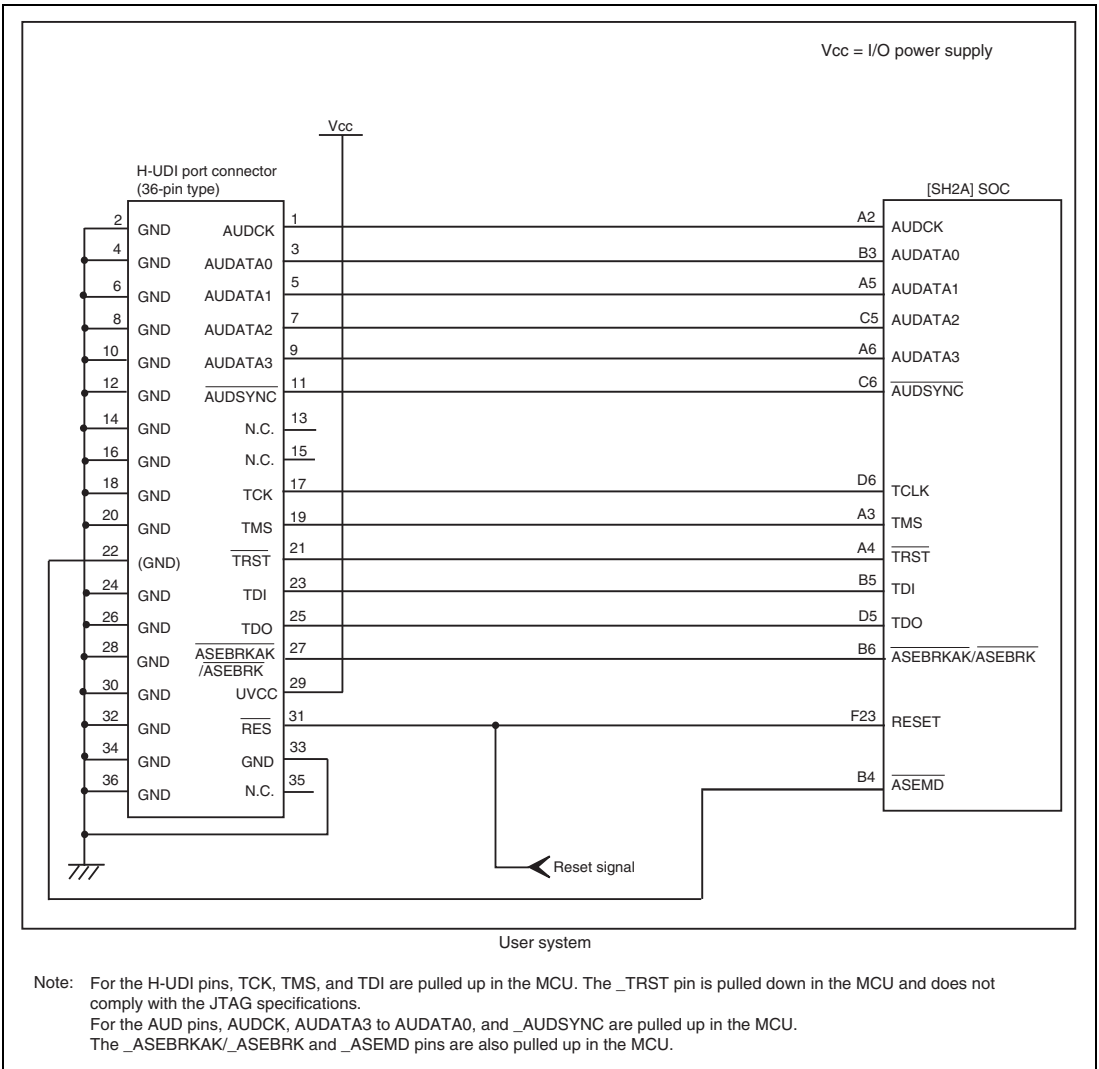

Figure 2.2 Recommended Circuit for Connection between the H-UDI Port Connector and MCU when the Emulator is in Use (36-Pin Type)
Figure 2.2 shows a recommended circuit for connection between the H-UDI and AUD port connectors (36 pins) and the MCU when the emulator is in use.
- (1) When the emulator is used: `_ASEMD = 0` (ASE mode)
- (2) When the emulator is not used: `_ASEMD = 1` (normal mode)Figure 2.2 shows an example of circuits that allow the `_ASEMD` pin to be GND (0) whenever the emulator is connected by using the user system interface cable.
7. The resistance values shown in figure 2.2 are for reference.